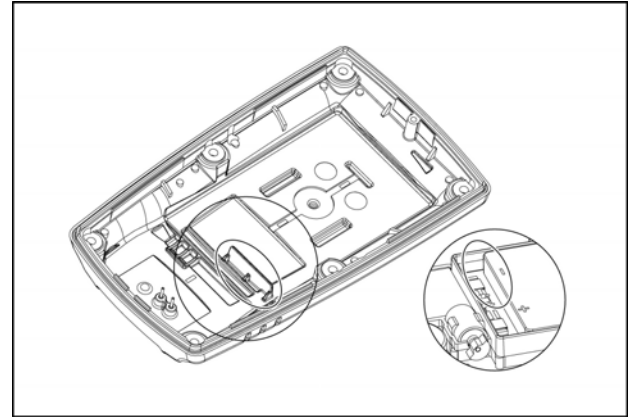

Figure 6. Replacing the Rear Shell
- Ensure the rib on the interior of the rear shell fits between the battery pack and the PCB (as shown in Figure 6).